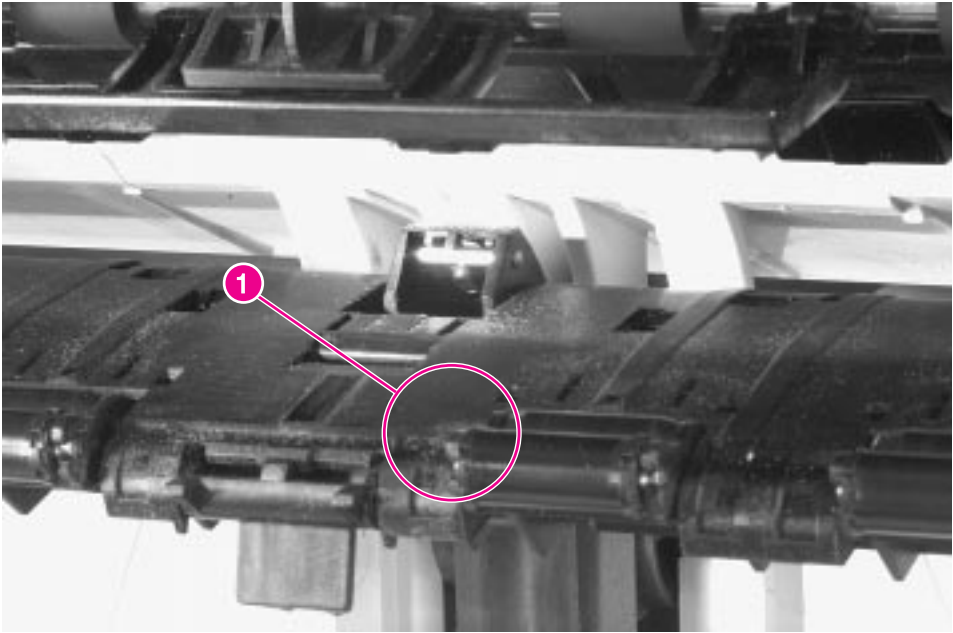

Figure 6-68 Mailbox with Stapler, Metallic Tape Retaining Pin
- 3 Release the top of the Metallic Tape (see figure 6-68 on page 237).
- 4 Release the upper end of the Metallic Tape (see figure 6-68 on page 237).
- 3 Release the tape retainer by pushing the tab (see figure 6-68, callout 1).